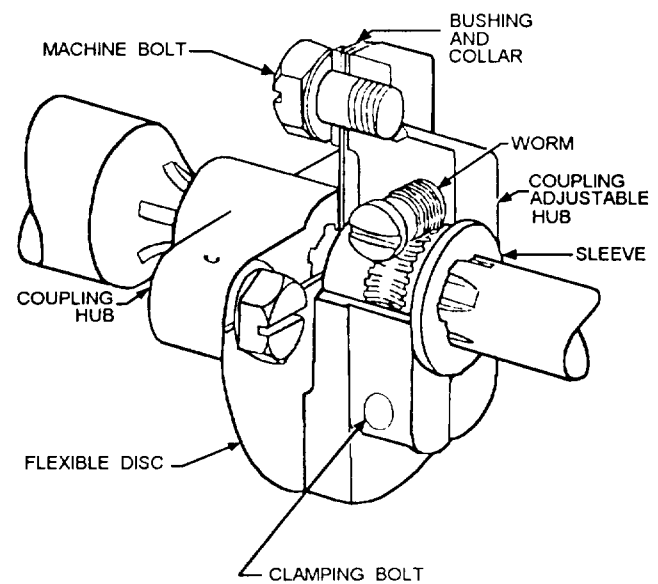

Figure 11-20.-Adjustable flexible (vernier) coupling.
4. The adjustable flexible (vernier) coupling (fig. 11-20), which is a combination of the flexible disk coupling and the adjustable (vernier) coupling.